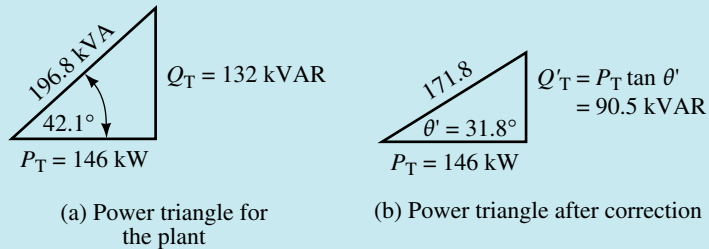

FIGURE 17–21 Initial and final power triangles. Note that P_T does not change when we correct the power factor.
Now consider Figure 17–22. $Q'_T = Q_C + 132 \text{ kVAR}$, where $Q'_T = 90.5 \text{ kVAR}$. Therefore, $Q_C = -41.5 \text{ kVAR} = 41.5 \text{ kVAR (cap.)}$. But $Q_C = V^2/X_C$. Therefore, $X_C = V^2/Q_C = (600)^2/41.5 \text{ kVAR} = 8.67 \Omega$. But $X_C = 1/\omega C$. Thus a capacitor of